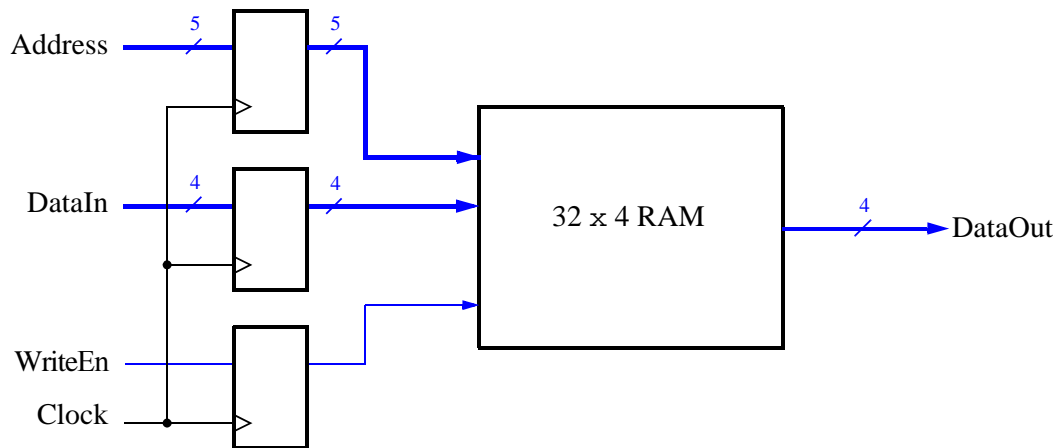

Figure 1: Schematic of the  $32 \times 4$  embedded memory module.
The memory module we would like to create is shown in Figure 1. It consists of a memory block, address register, data register and a control register. You can see that the address and input data are stored in a register as well as the Write Enable control signal. Using
To generate the memory module for the small memory shown in Figure 1, perform the following steps.
8. Examine the newly created Verilog file. Observe that it declares a module with the required ports as shown in Figure 1. You can now instantiate the module into any design.